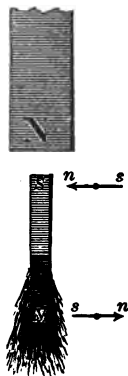

FIG. 203. — A magnet by induction.
**239. Induced magnetism.** If we plunge one end of a piece of unmagnetized soft iron into some iron filings, it does not attract them, but if we bring near it a permanent magnet, as shown in figure 203, the soft iron becomes a magnet and attracts the filings. When the permanent magnet is removed, the soft iron loses its magnetism, and drops the filings.